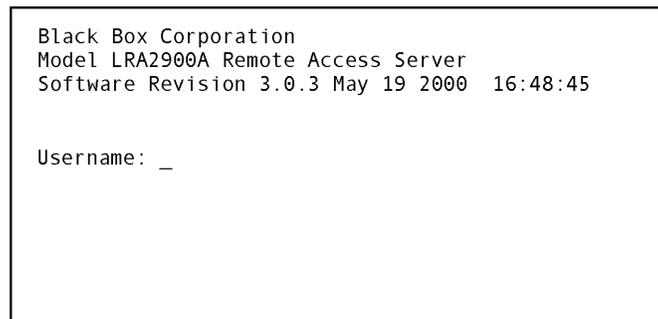

Figure 41. Login window
4. Press <RETURN> to display the login window (see figure 41).